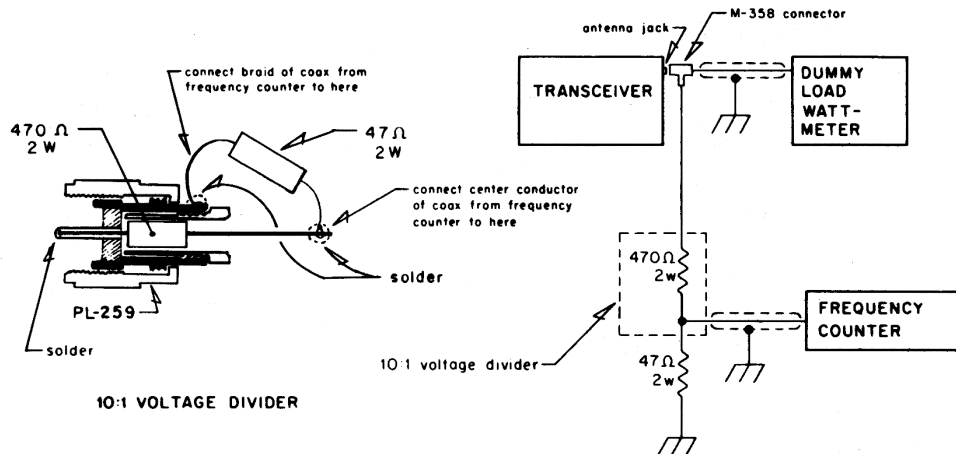

Figure 3-2. Connection of Frequency Counter and Dummy Load
***NOTE:** See Figure 3-2 for connection of the frequency counter and the dummy load.